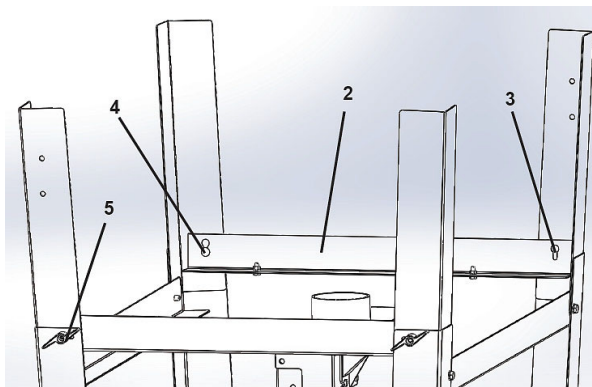

Fig. 5: Mount cross strut
Step 3: Align the cross strut (Pos.2, Fig.5) with the mounting holes and mount it. Tighten all screws (Pos.3, Fig.5).